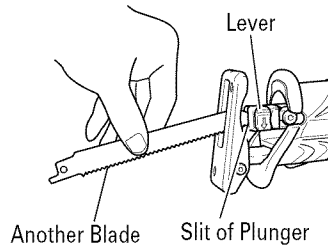

Fig. 8
- (1) If a part of the broken saw blade is sticking out of the small slit of the plunger, pull out the protruding part and take the blade out.
- (2) If the broken saw blade is hidden inside the small slit, hook the broken blade using a tip of another saw blade and take it out. (Fig. 8)